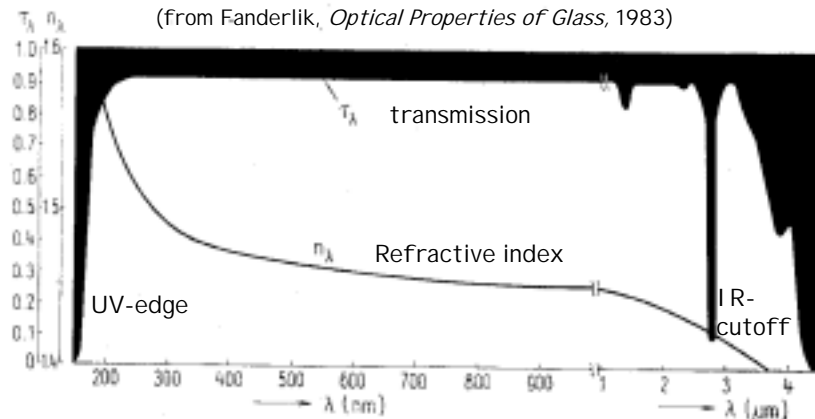

Fig. 41 Dispersion curve of quartz glass compared with its absorption spectrum.
- Note: the large increase in 'n' associated with the UV-edge is accompanied by a loss of transmission at these same wavelengths. Ditto for the IR-cutoff. See Fanderlik, figure 41.